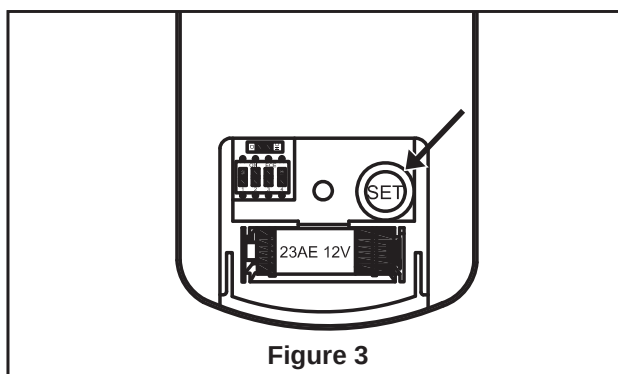

Figure 3
3. Remote Control Setting and Speed (RPM) Setting Process : (Figure 3)
- ☐ 3. Reinstall the upper housing to the motor assembly using the previously removed three screws. (Figure 3)